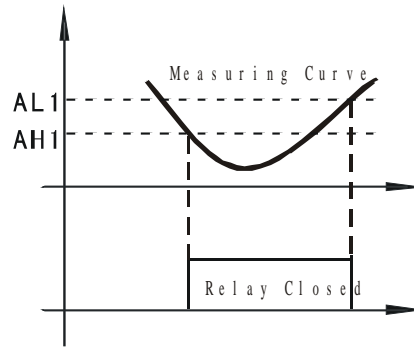

Figure 5
- c) Set $AH1<AL1$: Normally used for lower limit alarm trigger. See Figure 5.